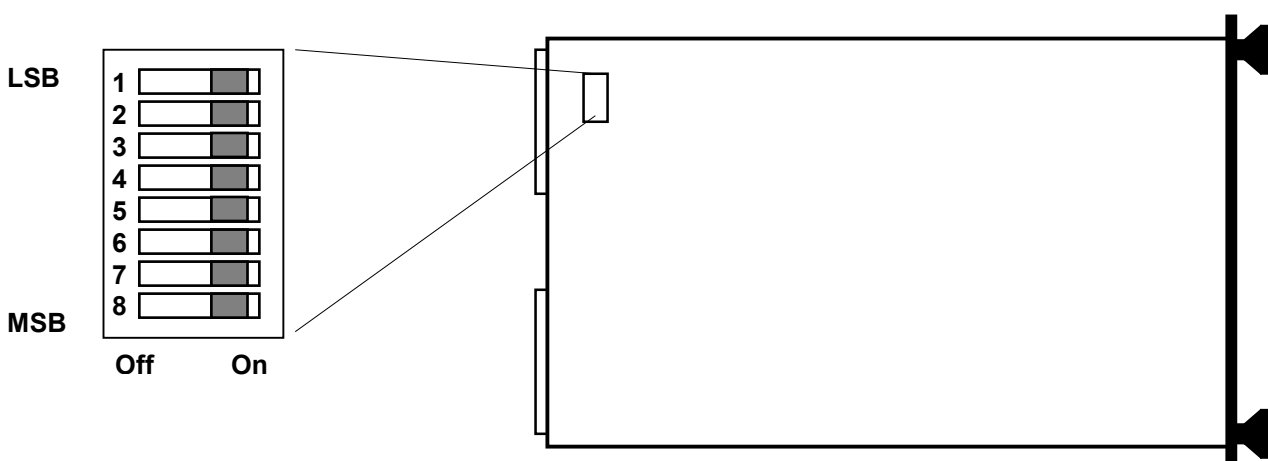

Figure 3 - Logical Address Switch Location
Figure 3 shows the location of the logical address switch on the ProDAQ 3042. Set each switch to 'Off' for a logical one (1) and to 'On' for a logical zero (0). The picture shows the address switch set to logical address zero (0).